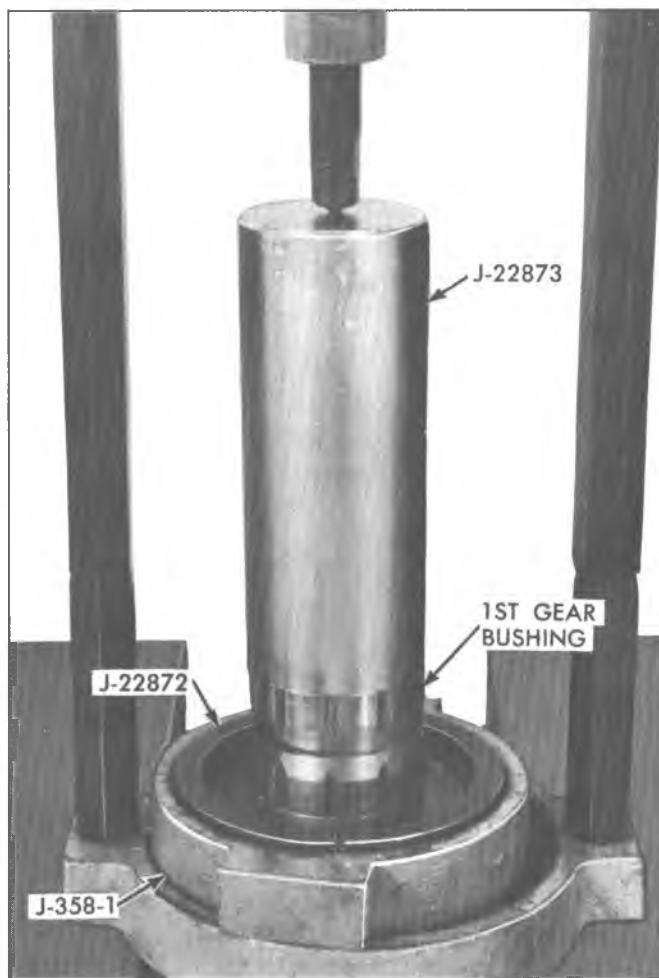

Fig. 17Q--Installing 3rd Speed Gear Bushing
4. Using Tool J-22873 press 1st speed gear bushing onto mainshaft until it bottoms against hub (fig. 17Q).